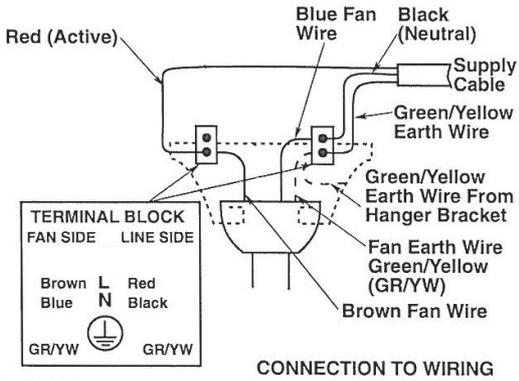

Figure 11
1. Securely connect the green/yellow earth wires from the hanger ball and the hanger bracket and the supply green/yellow earth wire to the terminal block as shown in Figure 11.
2. Securely connect the blue fan motor wire and the black supply neutral to the "N" terminal of the connector block as shown in Figure 11.
3. Securely connect the brown fan motor wire and the red (Active) supply wire to the "L1" terminal of the connector block as shown in Figure 11. After connections have been made, turn leads upward and carefully push leads into the recess making sure there is separation between connectors.